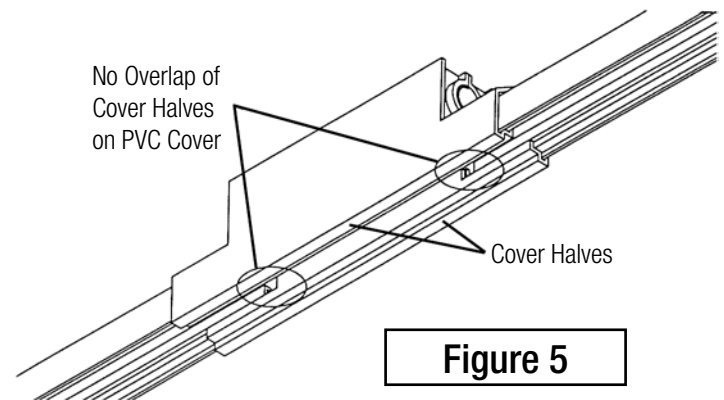

Figure 5
2.2.3.2 **Important: DO NOT allow the cover halves to overlap the PVC conductor cover. Overlapping the cover may derail the collector during operation (see Figure 5).**